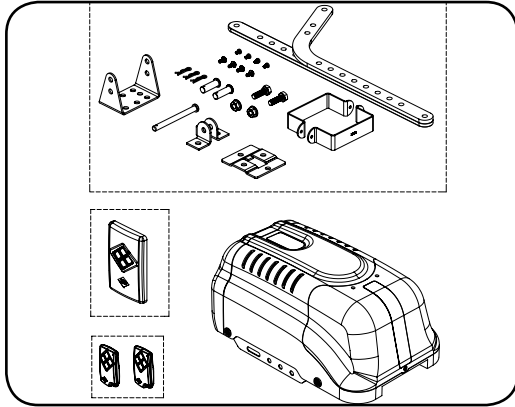

Fig. 02
- 1 x Controll-A-Door® P powerhead (Fig. 02)
- 1 x Transmitter pack (Fig. 02)
- 2 x Door attachment arms (Fig. 02)
- 1 x Accessory and hardware pack (Fig. 02)